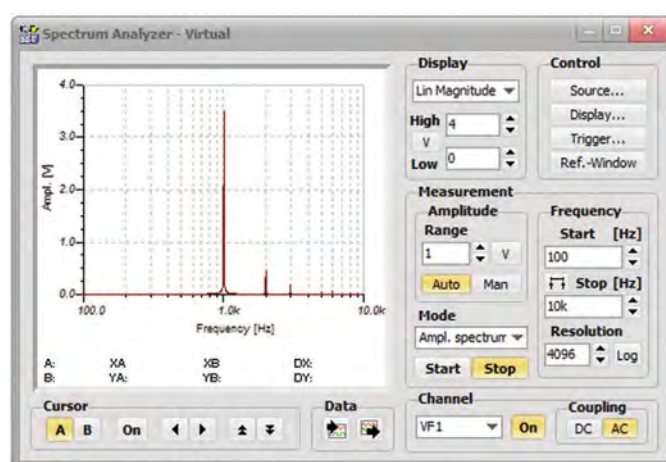

Fig.4.12 Recommended TINA Design Suite settings for carrying out the spectrum analysis
7. Use the Virtual Spectrum Analyzer to investigate the frequency spectrum of the clipped waveform. We recommend that you use the TINA settings shown in Fig.4.12.